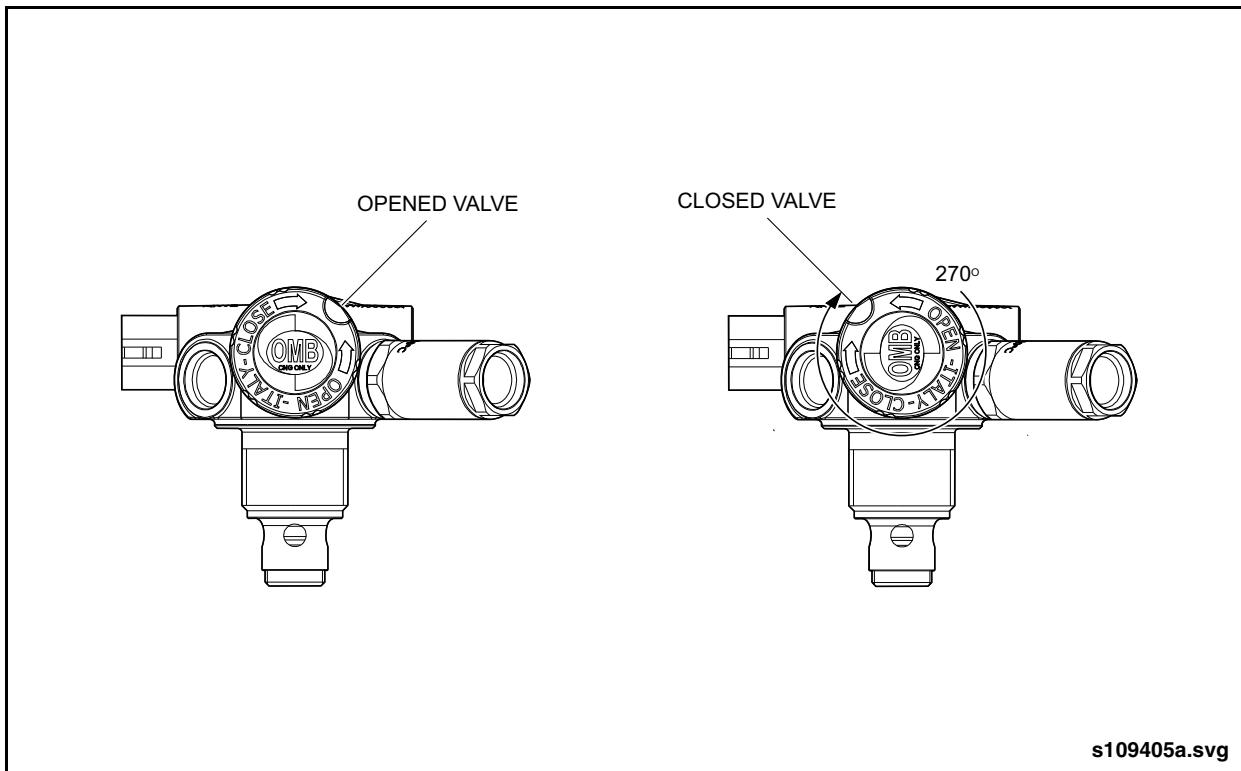

Fig. 7-9: Manually Closed Solenoid Valve
2. Close the fuel tank solenoid valves manually by rotating the valve knobs. See "Fig. 7-9: Manually Closed Solenoid Valve" on page 24.